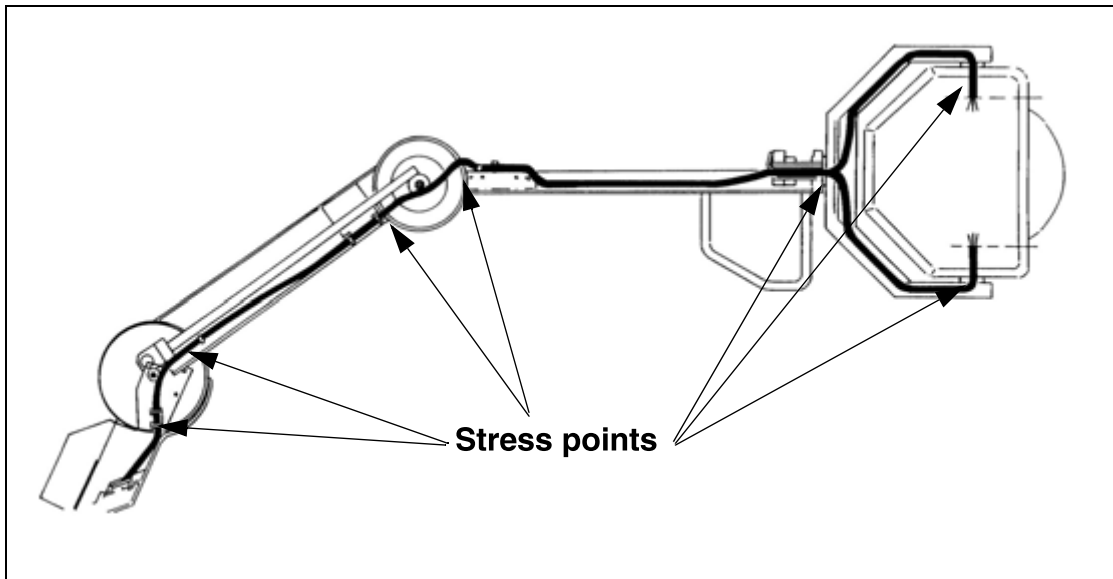

Fig. 12: Cable stress points
- Check all support arm cabling for damage (stretching, twisting, insulation cracks). Pay special attention to the stress points of moving elements (Fig. 12 / p. 46).